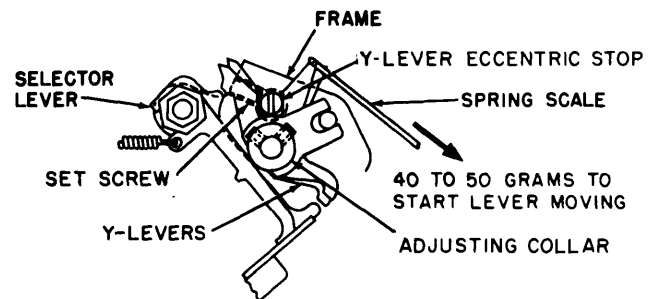

Figure 3-124. Y-lever function adjustment (TT-4A/TG and TT-698/TG).
(fig. 3-124)
*a. Requirement.* A force of 40 to 50 grams, applied with a spring scale at the point shown in figure 3-124, should be required to start each Y-lever moving from the counterclockwise to the clockwise position.